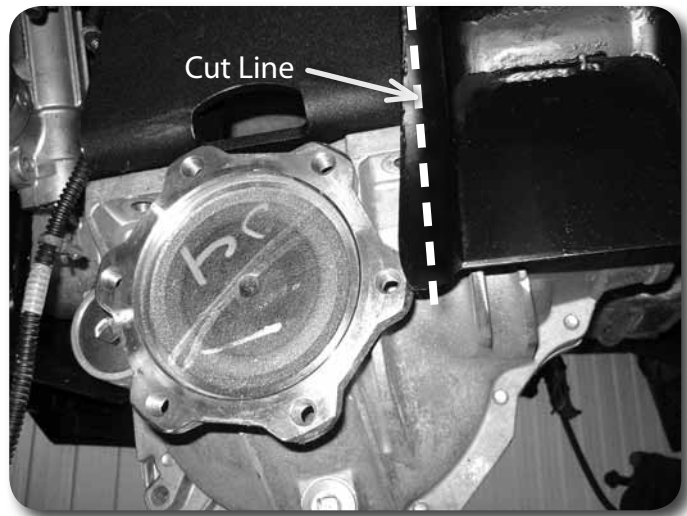

Figure 26 - Shown with differential to show clearance
35. The rear control arm pocket flanges need to be trimmed for CV shaft clearance. Cut the flange so it is approx. 3/8" from the inside face of the control arm pocket. Verify there is enough clearance once to the CV spacers are installed. **Figure 26 & 27**